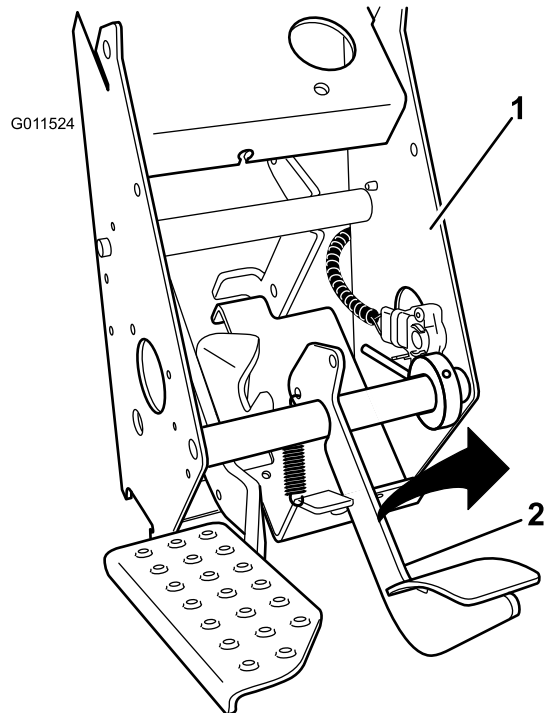

Figure 3
3. Remove the pedal assembly from the pedal box (Figure 3).